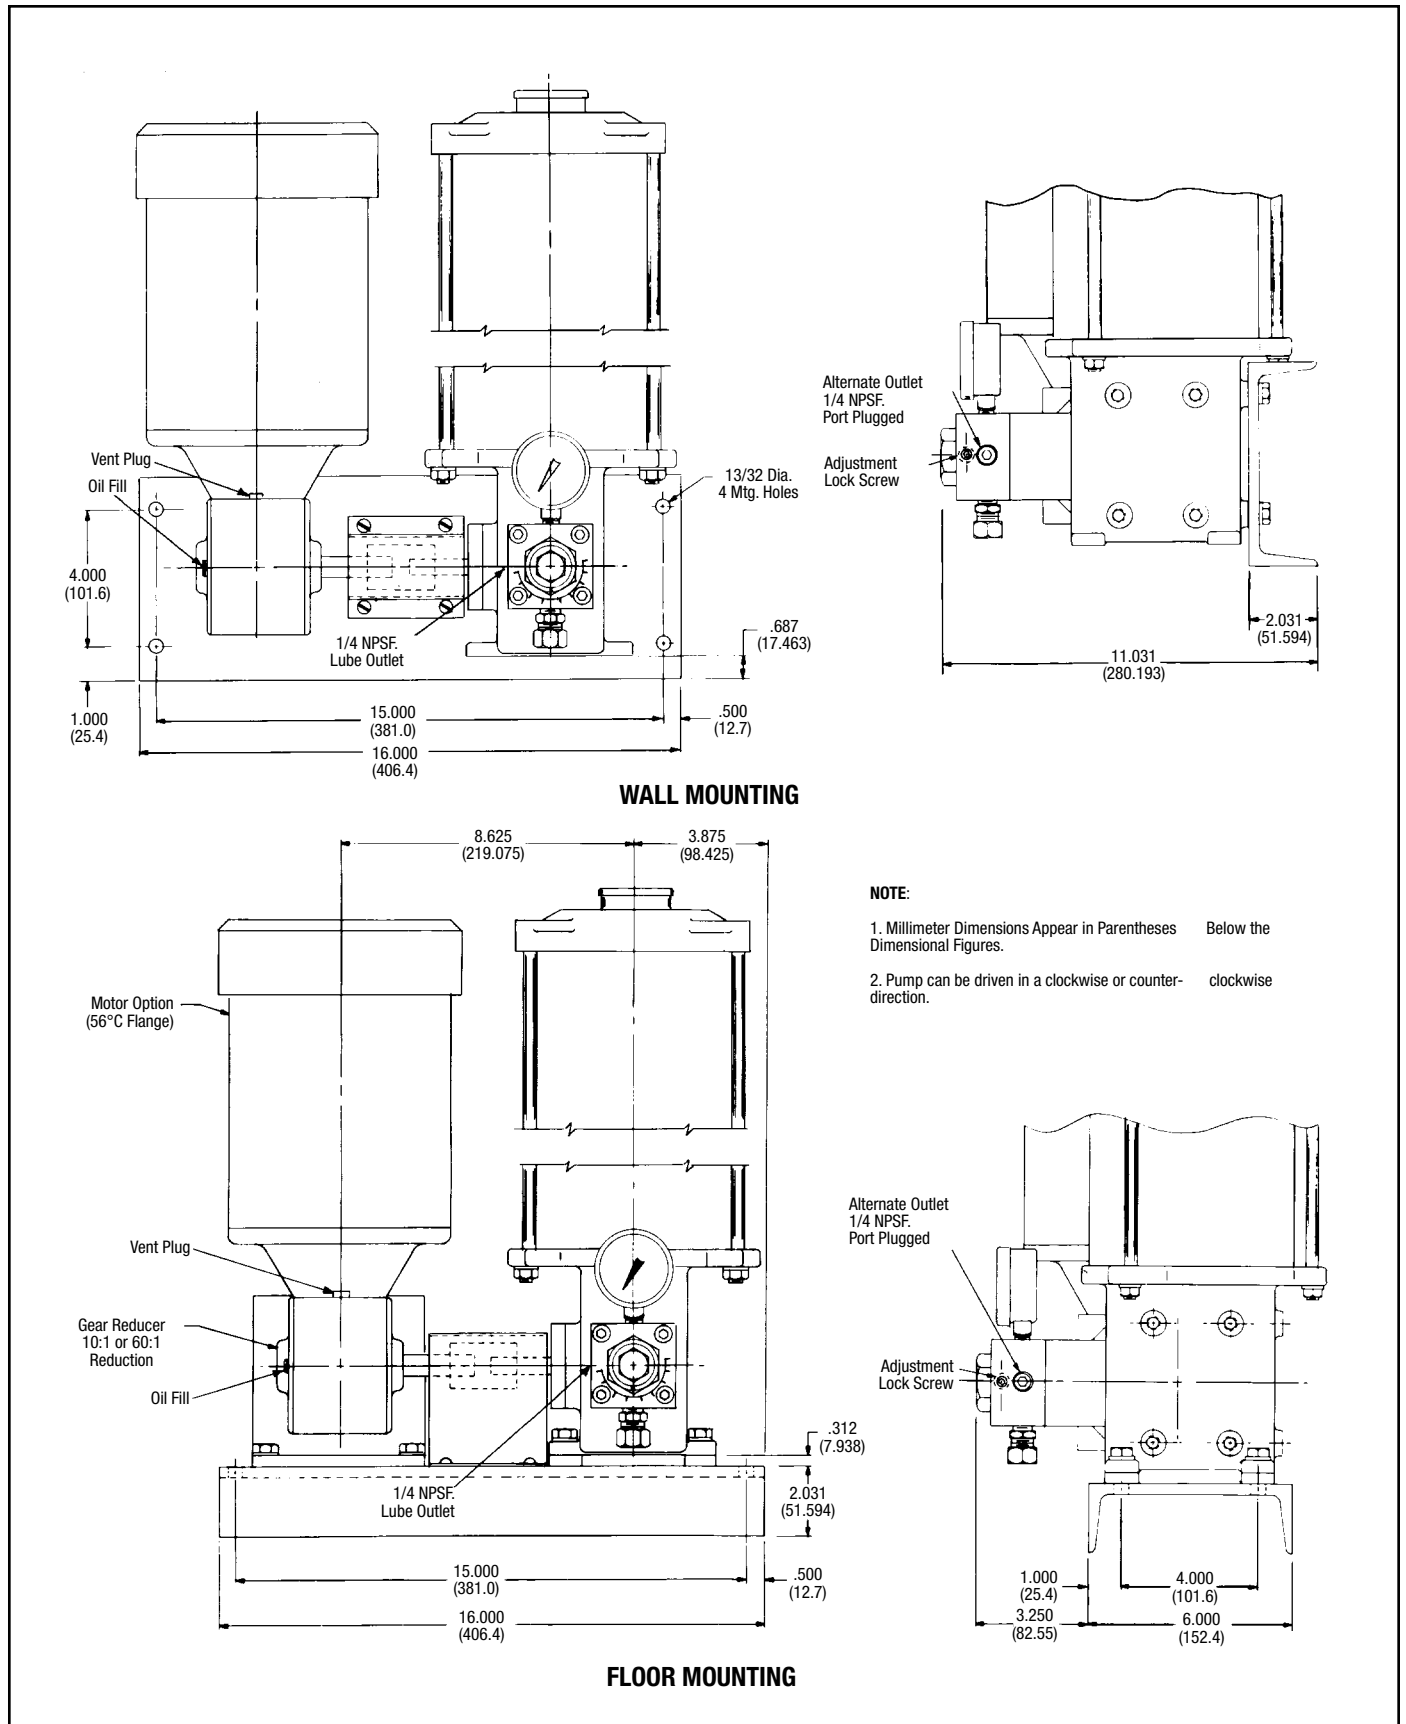

Figure 4-5. Motorized LUBEMASTER Dimensions (Up to 20 Lbs)
4.2.1.3 Gear Reducer and Motor. Gear reducers and motors are provided with floor or wall mounting bases. These units are prepackaged as motorized LUBEMASTER Pumps. Mounting dimensions of these units are provided in Figure 4-5.